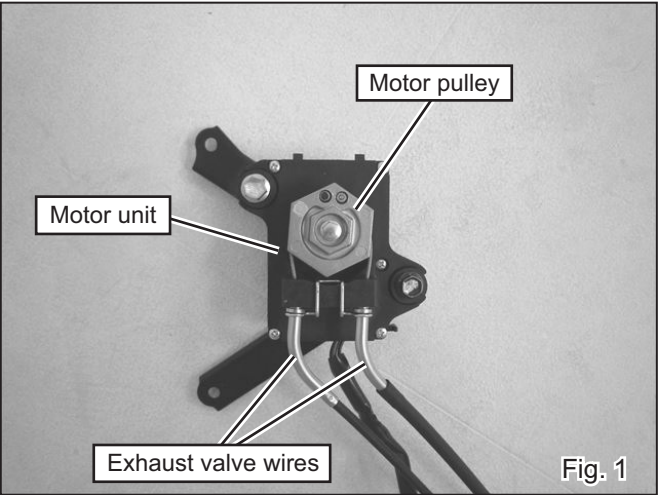

Fig. 1
- 4) Unscrew stock bolt from motor pulley on motor unit with caution not to turn the pulley. Then remove pulley from motor unit. (See Fig.1 on previous page)